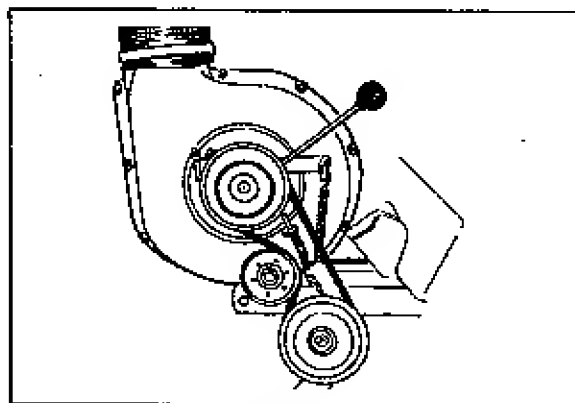

FIGURE 17
8. Remove the pulley guard on the upper right side of the blower assembly and position the blower drive belt over the pulleys as shown (Figure 17). Adjust the belt tension as required. A space of approximately 3/4" should be between the set collar and guide bracket when engaged (Figure 17). Replace the pulley guard (Figure 18).